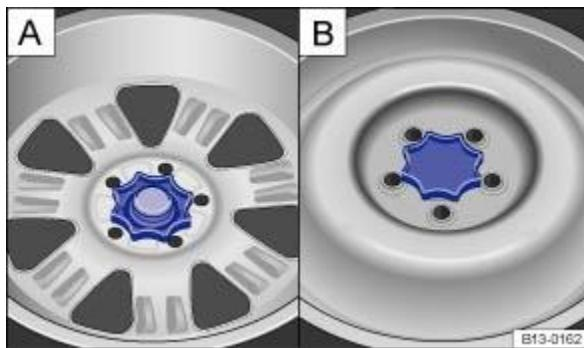

Fig. 197 In luggage compartment: : handwheel for securing spare wheel, : handwheel for securing temporary spare wheel.
- ¶ Fully unscrew the handwheel in middle of the spare wheel ⇒ Fig. 197 in an anti-clockwise direction.